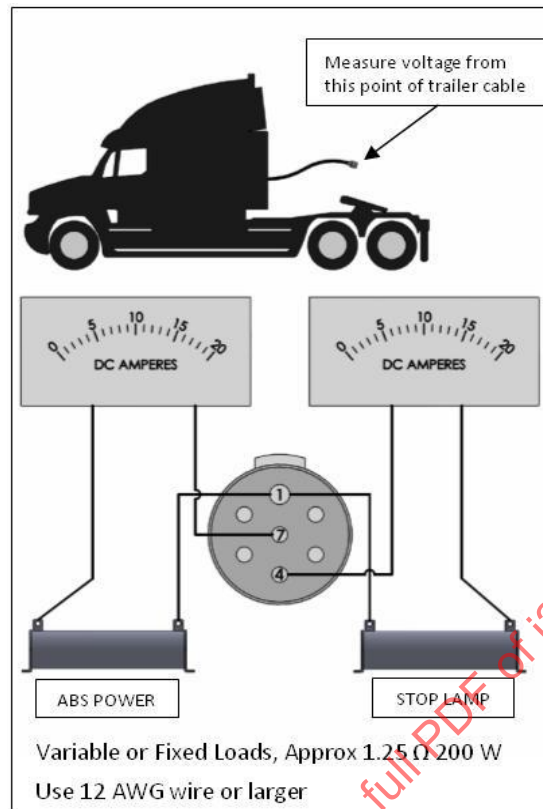

FIGURE 1 – TRACTOR POWER TEST CIRCUITS
- 5.6 Measure and record the voltage on the stop lamp and ABS circuits on the trailer load side of the SAE J560 Primary Connector as near as practical to the connector terminals. The minimum voltage should be 12.5 VDC at 20 °C \pm 10 °C between each circuit to the ground terminal. See Figure 1 - If not, proceed to 5.7.